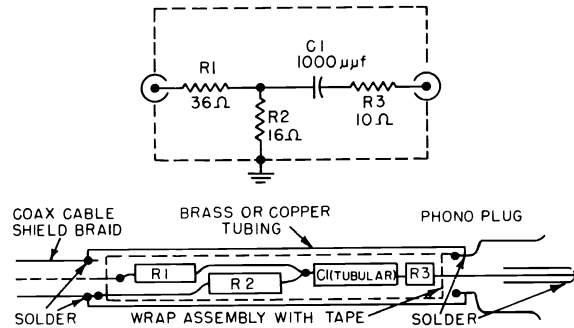

FIG. 4. I-F INJECTION PLUG CONSTRUCTION
6. Inject signals from a properly terminated AM signal generator or sweep generator through the network in Figure 4 to the I-F injection jack*.
*NOTE: The I-F injection jack is not a phono type receptacle. The connection is made by the end of the phono plug touching the contact inside the injection jack. The outside shell of the plug grips the injection jack firmly. Press the plug firmly into place without excess pressure. See Figure 4 for plug construction.